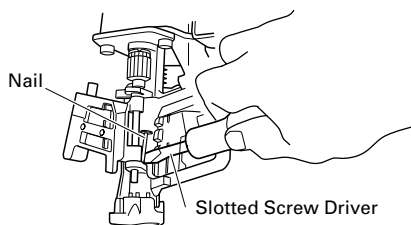

Fig. 12
- (2) Remove the jammed nail with slotted screwdriver. (Fig. 12)